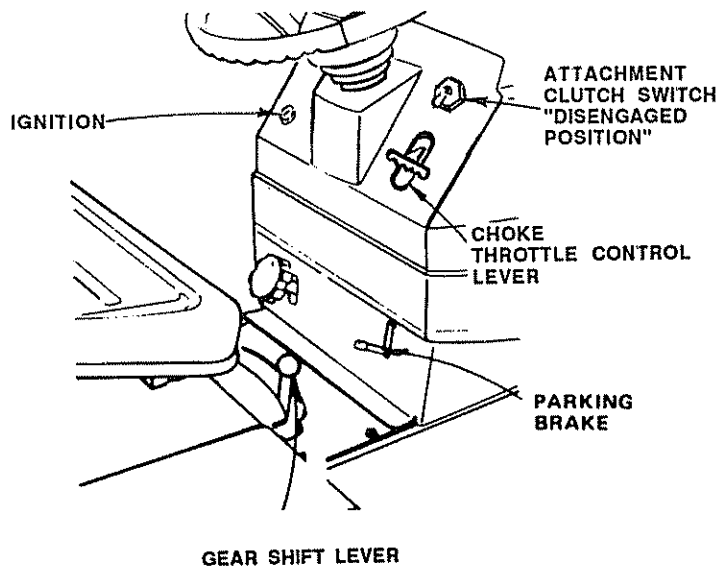

FIGURE 7
- Move throttle control lever (Fig. 7) past "FAST" to the "CHOKE" position.